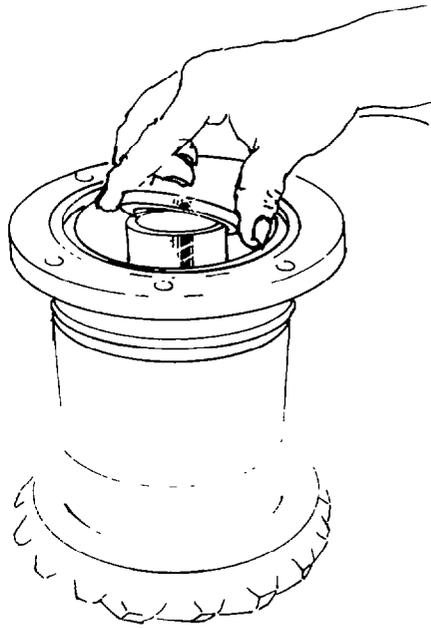

Fig. 320 — Installing Spacer
- i. Install the spacer as shown in fig. 320.